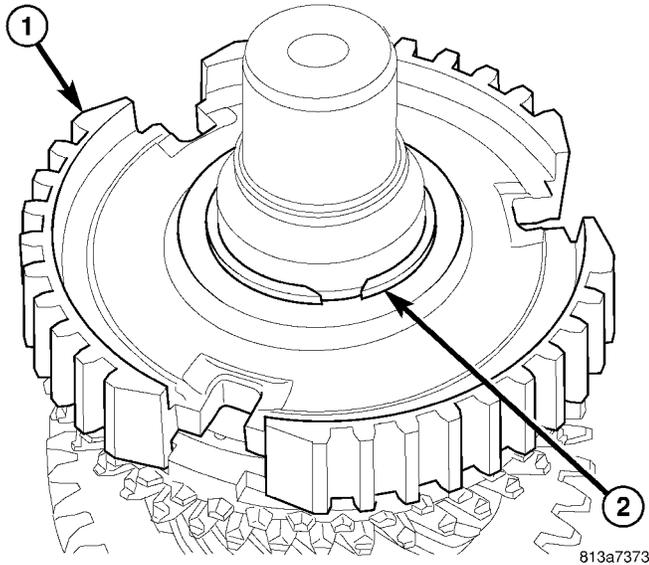

Fig. 82 5-6 SYNCHRO HUB SNAP RING
(27) Install 5-6 synchronizer hub (1) (Fig. 82) snap ring (2).
(28) Install 5-6 synchronizer sleeve on hub (1).